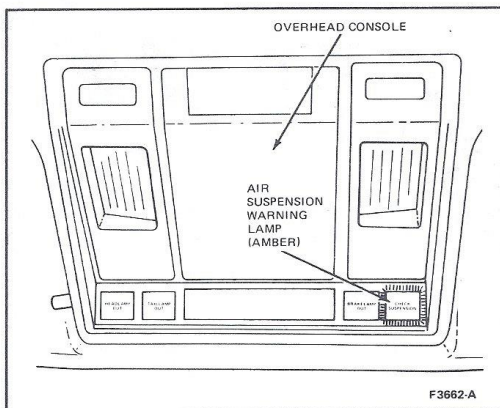

FIG. 9 Air Suspension Warning Lamp
The air suspension warning lamp, located in the overhead console (Fig. 9), has three main functions:
5. Turn the ignition switch to the Run position. (Do not start vehicle). The warning lamp will blink continuously at a rate of 1.8 blinks per second to indicate diagnostics has been entered and is ready (Fig. 9).